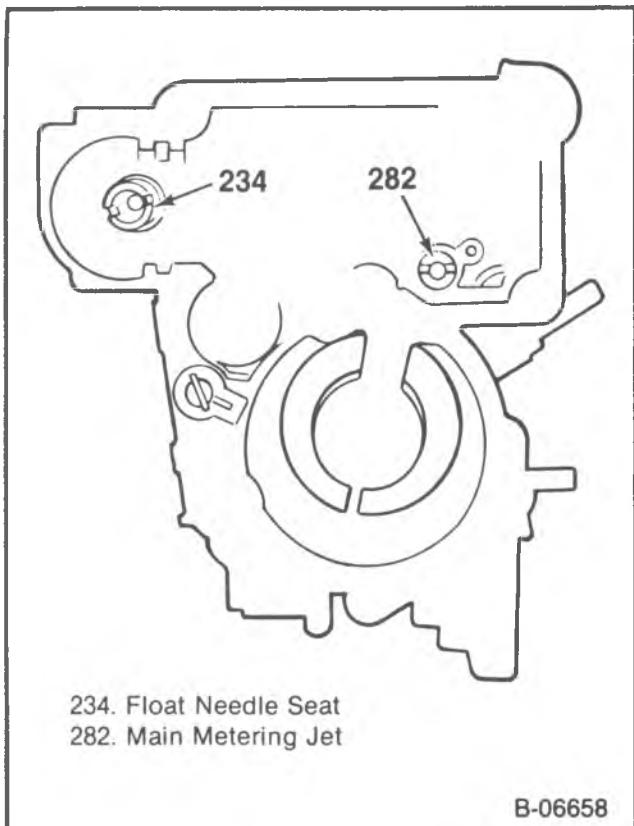

Figure 23 - Float Needle Seat and Main Metering Jet
- ↔ Remove or Disconnect (Figures 23, 22)**
1. Float needle seat (234) and seat gasket (235).
2. Main metering jet (282).